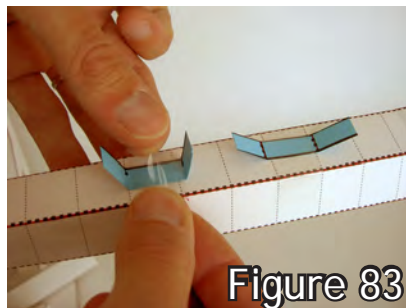

Figure 83
5. Tape each bracket to the beam using a single piece of tape down the center of the bracket. (fig. 83) The two arms of each bracket should still be able to stick straight up.